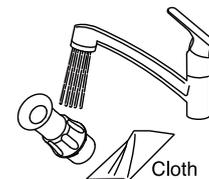
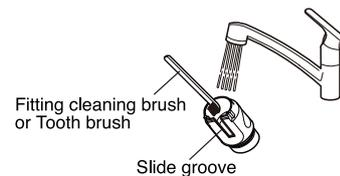
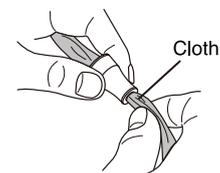

Fig.5-8 Surface cleaning
Fig.5-9 Cleaning of hole and sliding part
Fig.5-10 Cleaning the area (brush is unable to reach)
- A. Wipe off the surface contamination by a cloth while rinsing the surface by running clean warm at 40 ± 5 degrees. **(Fig.5-8)** Scrub the intubation or hole, slide groove and filter by a cleaning brush or by a tooth brush with running clean warm water at $40\pm$ degrees. **(Fig.5-9)** Wipe off by a cloth for the area which brush is unable to reach. **(Fig.5-10)**